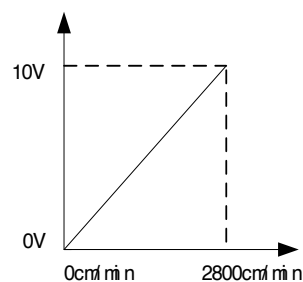

Figure 5-17 Corresponding relation of given wire feeding
1. Corresponding relation of given wire feeding speed is shown in Figure 5-17.